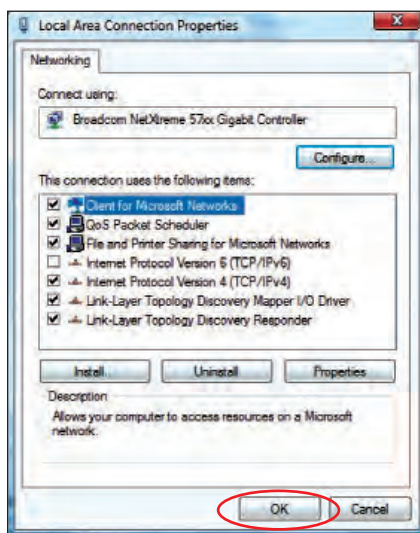

Figure B-11. Local Area Connection Properties.
11. Select **OK** (Figure B-11).